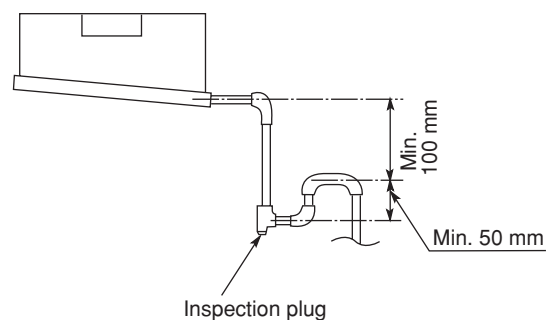

Fig. 3-120
- (5) Also, in another part of the pipe arrangement, prepare traps with an inspection plug to clean dust or debris that may cause leaking of water. (Fig. 3-120)
- (6) After connecting the drain piping, slowly pour water into the drain pan to check that the water drains smoothly.